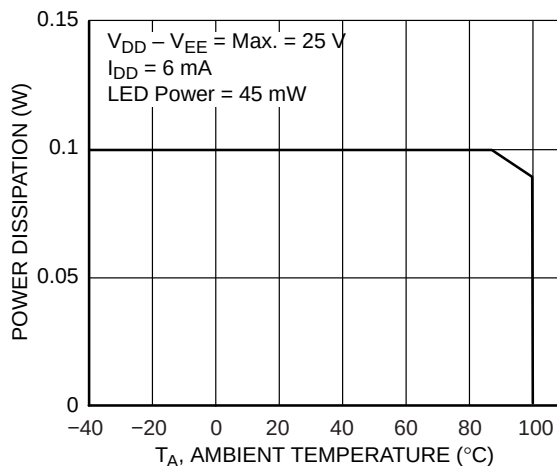

Figure 13. Absolute Maximum Power Dissipation vs. Ambient Temperature
3. Derate linearly above $+87^\circ\text{C}$, free air temperature at the rate of $0.77\ \text{mW}/^\circ\text{C}$. Refer to Figure 13.
The absolute maximum output power dissipation versus ambient temperature is shown in Figure 13. The output driver is capable of supplying 100 mW of output power over the temperature range from -40°C to 87°C. The output derates to 90 mW at the absolute maximum operating temperature of 100°C.